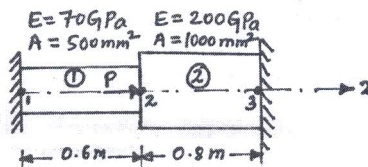

Fig. Q4 (b)
b. An axial load $P = 250$ KN is applied as shown in Fig. Q4 (b). Using the penalty approach for handling boundary conditions ; Determine